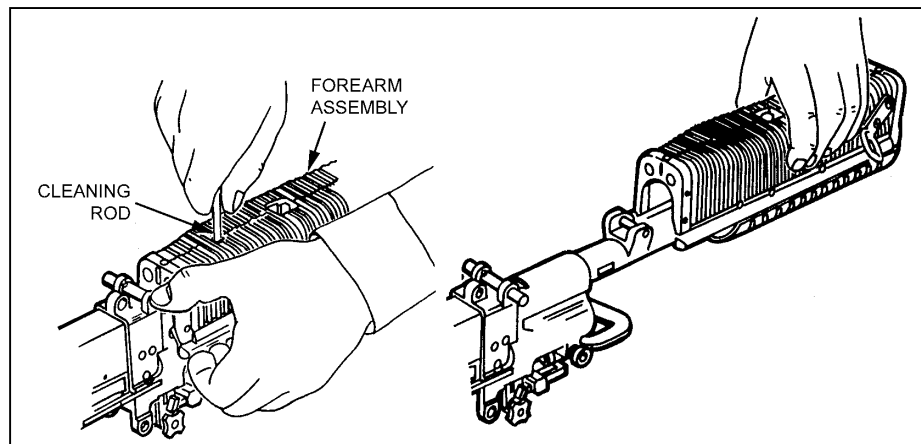

Figure 2-14. Removal of the forearm assembly.
f. **Removing the Forearm Assembly.** The gunner inserts a cleaning rod or the reamer portion of a combination wrench through the round opening in the forearm assembly, and then he pushes down on the spring. He lifts and gently slides the forearm assembly from the receiver (Figure 2-14, page 2-16).